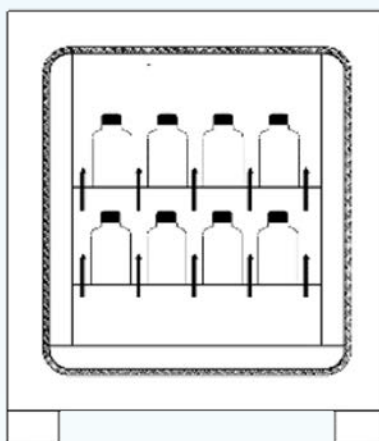

Figure 3
3. The load should not be placed on the bottom of the chamber, touching the side walls or directly below the ceiling of the working chamber (refer to Figure 3 for optimal loading).